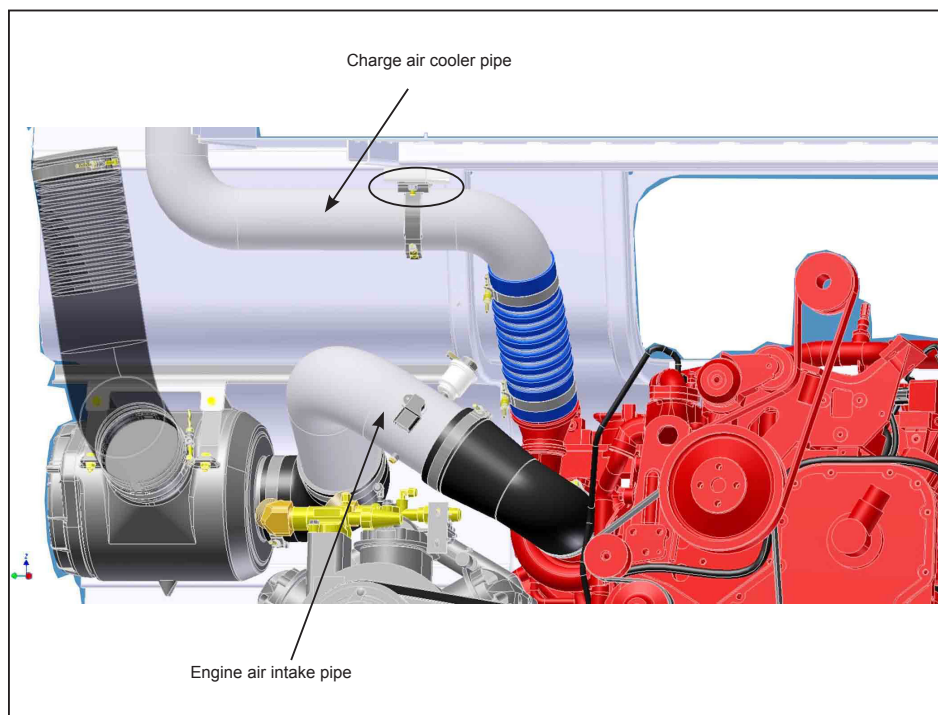

Figure 1 - Air Intake Pipe Location
- 1.2. Locate the engine air intake pipe and the charge air cooler air pipe. See Figure 1.